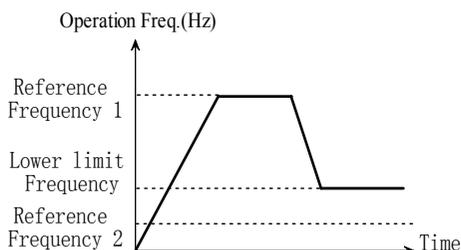

Fig. 5-2-3 Running at Frequency lower limit
- ◆ If setting is 0, when the reference frequency is lower than frequency lower limit, the inverter will run at frequency lower limit instead of reference frequency. As shown in Fig. 5-2-3.